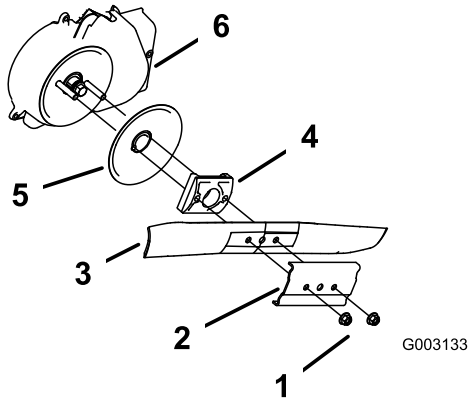

Figure 35
3. Remove the 2 blade nuts and the stiffener (Figure 35).
4. Remove the blade (Figure 35).
5. Remove the blade driver and disk (Figure 35).
6. Remove the blade-brake-clutch shield (Figure 35).
10. Install the blade and the stiffener that you previously removed (Figure 35).